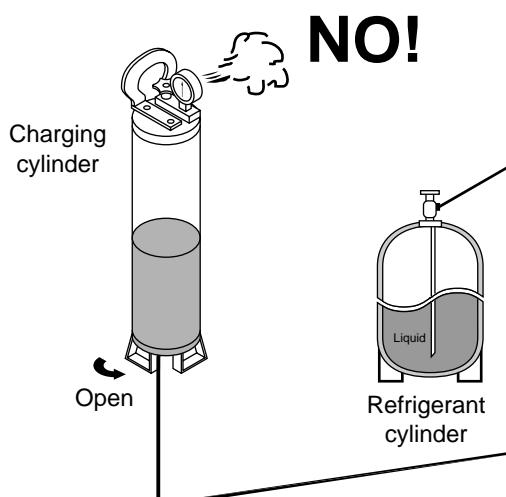

Fig.3
- To prevent the composition of R407C from changing, never bleed the refrigerant gas into the atmosphere while transferring the refrigerant. (Fig. 3)